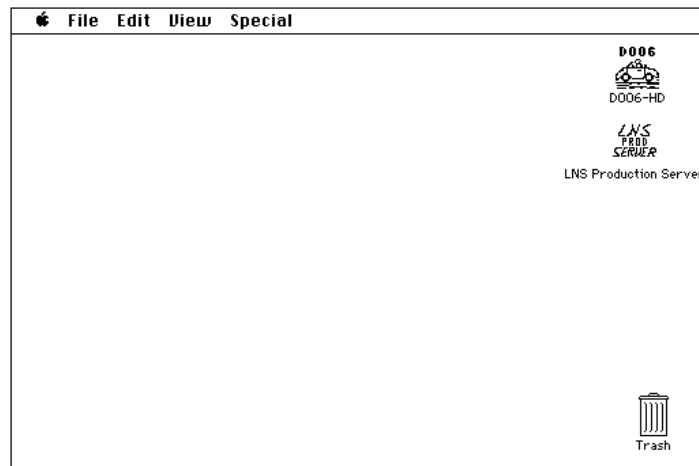

Figure 3
- 7.25.4 Double click on the “LNS Production Server” icon (see figure 3). The clock synchronization program will automatically set the clock.